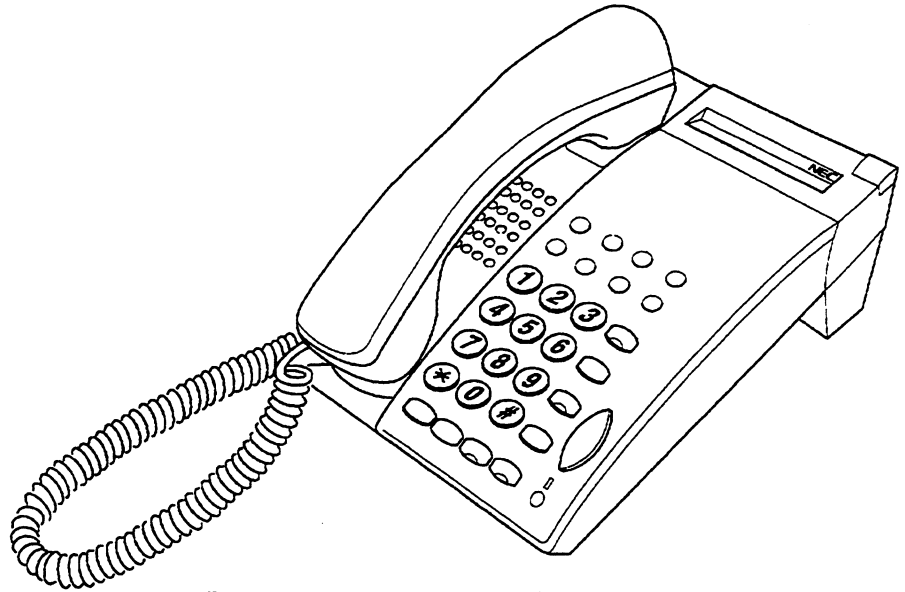

Figure 1-40 DTU-8-() (BK)/(WH) TEL
7.2.1 DTU-8-() (BK)/(WH) TEL
This non-display digital multiline terminal has eight programmable line keys (each with a two-color LED), built-in speakerphone, headset jack, a Large LED to indicate incoming calls and messages, and compatibility with the ADA-U, APR-U, and HFU-U Units. Refer to Figure 1-40 - DTU-8-() (BK)/(WH) TEL.